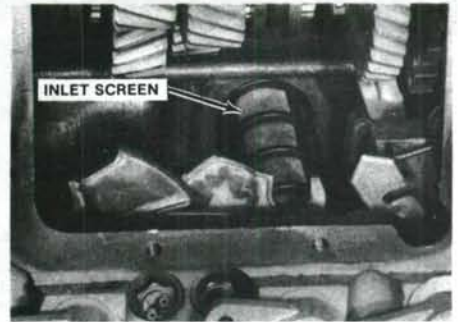

Fig. 109—Hydraulic inlet screen must be removed to remove shifter shafts.
To remove shifter shafts (items 21 through 31), hydraulic inlet screen (See Fig. 109) must be removed as outlined in paragraph 250. Remove outer shift levers from speed transmission. Remove snap ring (29—Fig. 107) from shift shaft (28). Remove flat washer (31) and wave washer (30). First remove shift shaft for third and fourth gear, then remove shift shaft for first and second gear. Renew "O" rings (27) on shift shafts when reassembling.